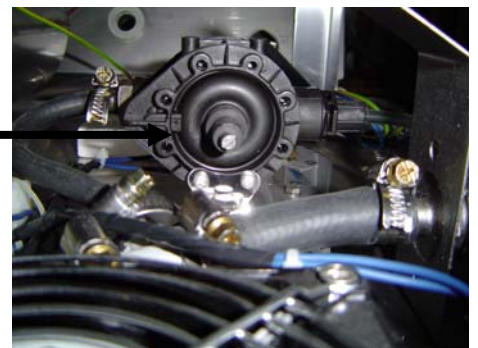

Fig. 24
- For the Rinse, turn the button counterclockwise to get more rinse aid and clockwise for less. You prime the line by pressing the button. (Fig. 24). Rinsing aid dispenser needs priming when the machine is first installed or if for some reason the chemical line have been removed and air has been allowed to enter.